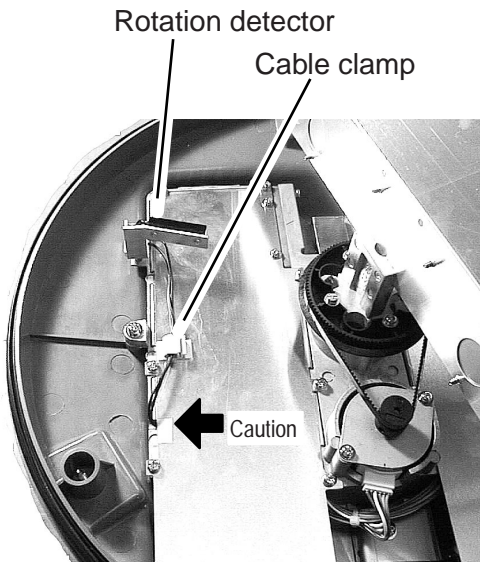

Figure 5 Antenna unit, inside view
- Refasten the shield plate with 10 screws. Be sure not to pinch cable from the rotation detector with the shield plate. See "Caution" in Figure 5 for details.